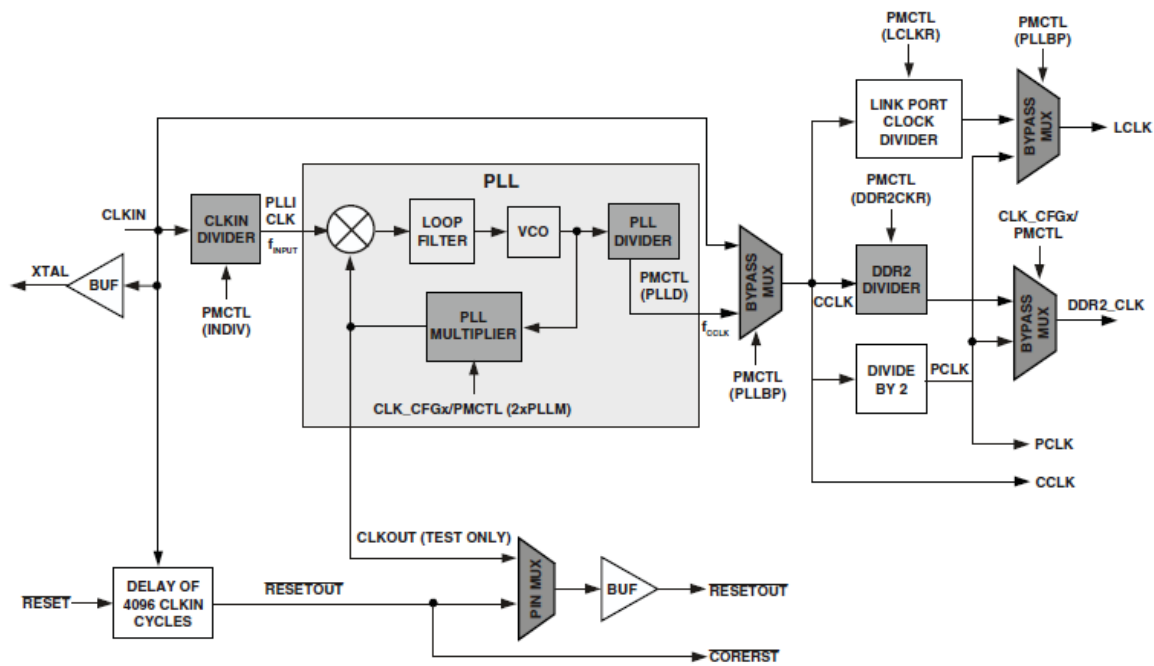

Figure 2. PLL block diagram for ADSP-2146x processors
- The Figure 2 shows the PLL block diagram for the ADSP-2146x processors. This block diagram includes the clock dividers for the DDR2 and link port clocks, both of which are only available on the ADSP-2146x processors.